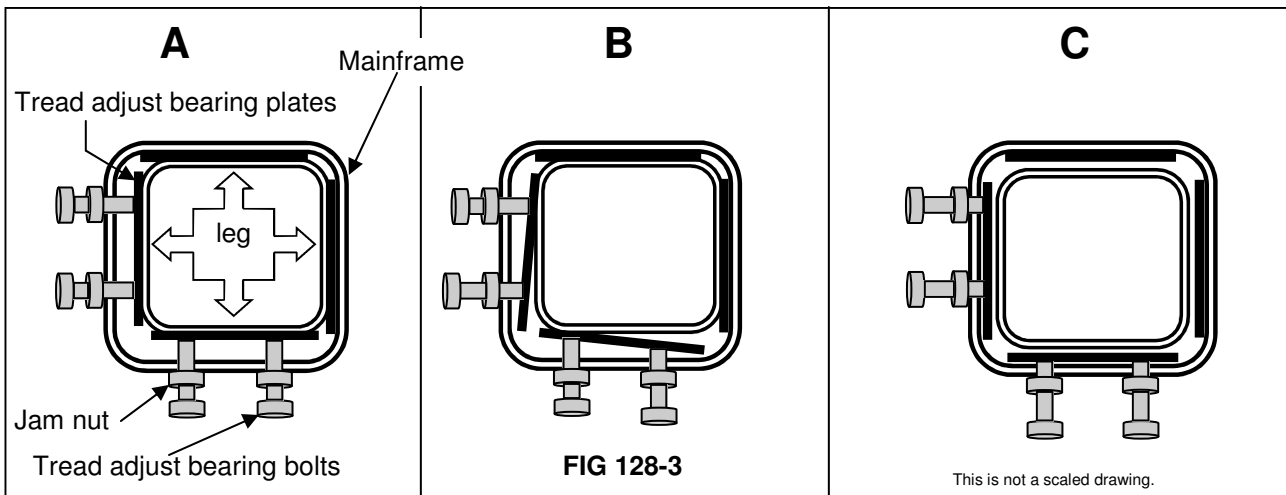

FIG 128-3
**Even pressure of the tread adjust bearing plates is required for proper operation!** (fig. 128-3) Figure A shows the correct position of the tread adjust bearing plates and bolts as well as the outer leg. Figure B shows the plates when there is not even torque on each of the tread adjust bearing bolts. Figure C shows a situation in which there is not enough torque on the tread adjust bearing bolts. Both figure B and C will cause the tread adjust to operate incorrectly or not at all.